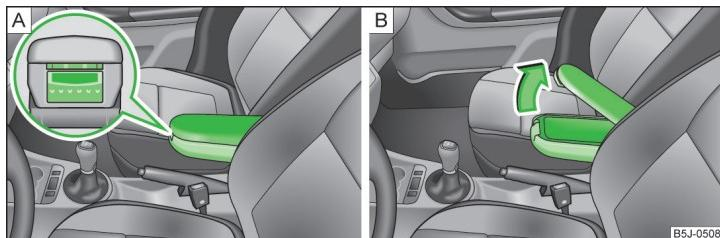

Fig. 90 Armrest: Storage compartment/open storage compartment
- Press the lower button on the end of the armrest » Fig. 90 - **A**.
- Press the upper button and open the cover of the stowage compartment upwards » Fig. 90 - **B**.